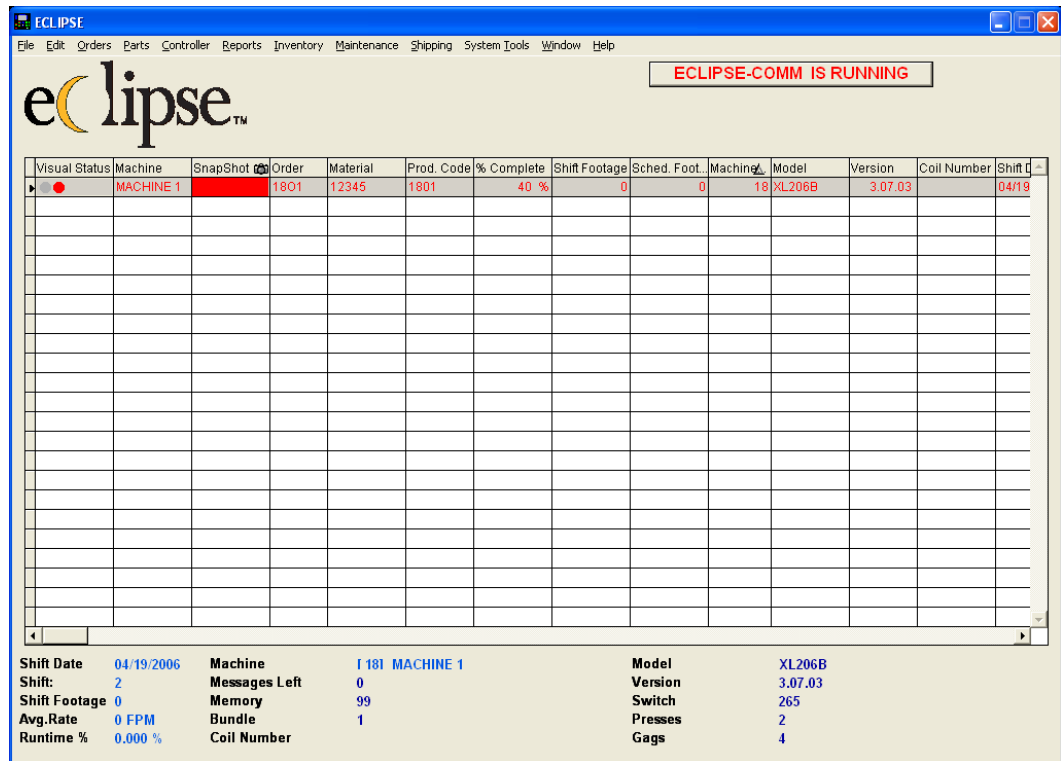

Figure 10: The Eclipse Window (Eclipse-COMM on and running)
- If Eclipse is communicating with the new device, the circles under **Visual Status** will display as red or green (see Figure 10).